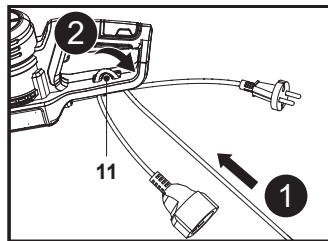

Fig. 2
1. Double the extension cord back, about 20 cm from the end and lead the loop through the hole of the cord retainer (11) and hang the loop over the hook (Fig. 2, steps 1, 2).